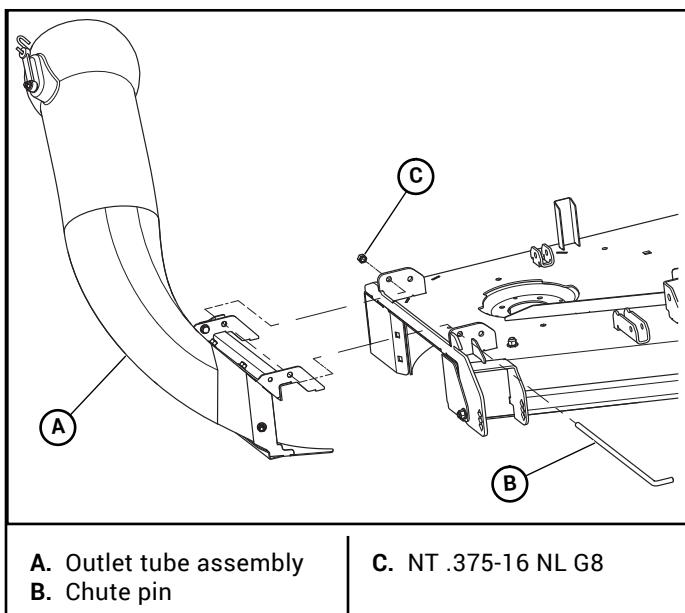

Figure 3-28
34. Set the outlet tub in place and secure with the chute pin. Figure 3-28